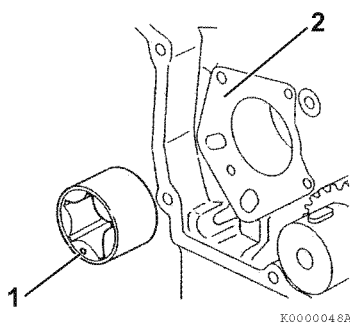

Figure 9-29
2. Reinstall the outer rotor in the gear case housing. The punch mark (1, **Figure 9-29**) on the end of the outer rotor must face away from the gear case housing (2, **Figure 9-29**).